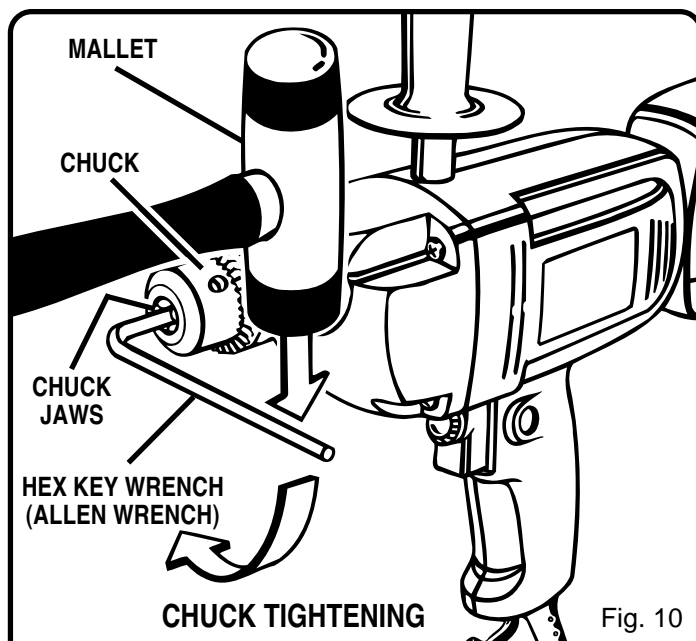

Fig. 10
See Figures 10, 11, and 12.
3. Tap the hex key wrench sharply with a mallet in a clockwise direction. See Figure 10. This will loosen the chuck screw for removal.
2. Insert hex key wrench into chuck and tighten chuck jaws securely. Tap allen wrench sharply with a mallet in a clockwise direction. This will tighten the chuck on the spindle. See Figure 10.